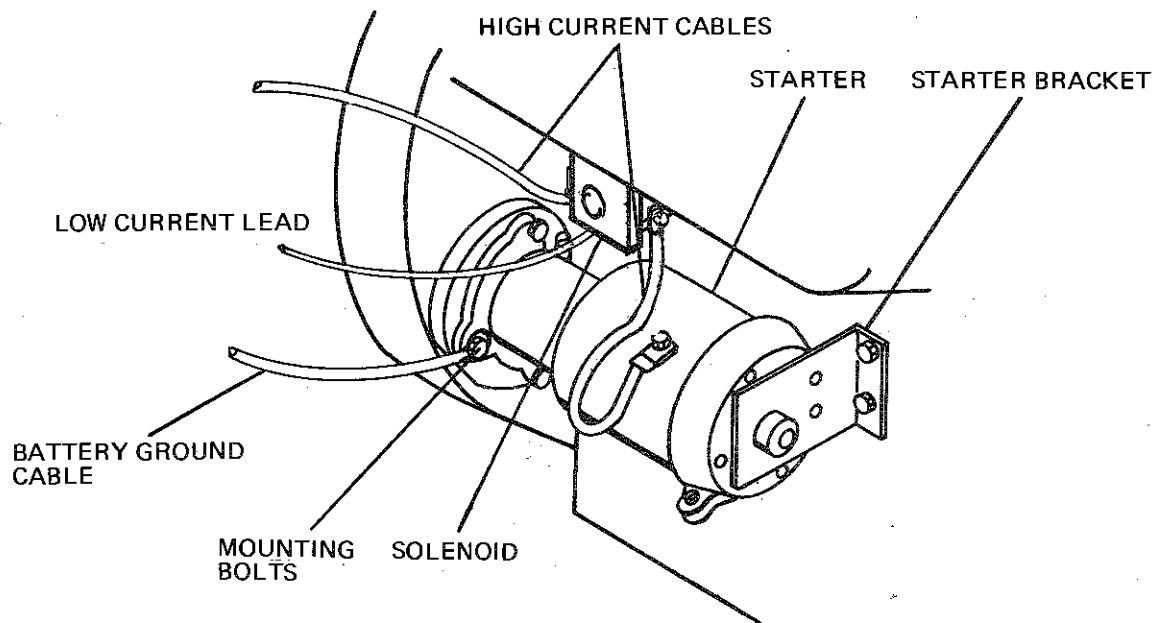

Figure III-6 Starter and Solenoid
b. Removal (See figure III-6)
- (1) Disconnect the battery ground cable.
- (2) Disconnect the two high current electrical cables.
- (3) Disconnect the low current lead.
- (4) Remove two solenoid mounting bolts.
- (5) Remove the solenoid.
### b. Removal (See figure III-6).